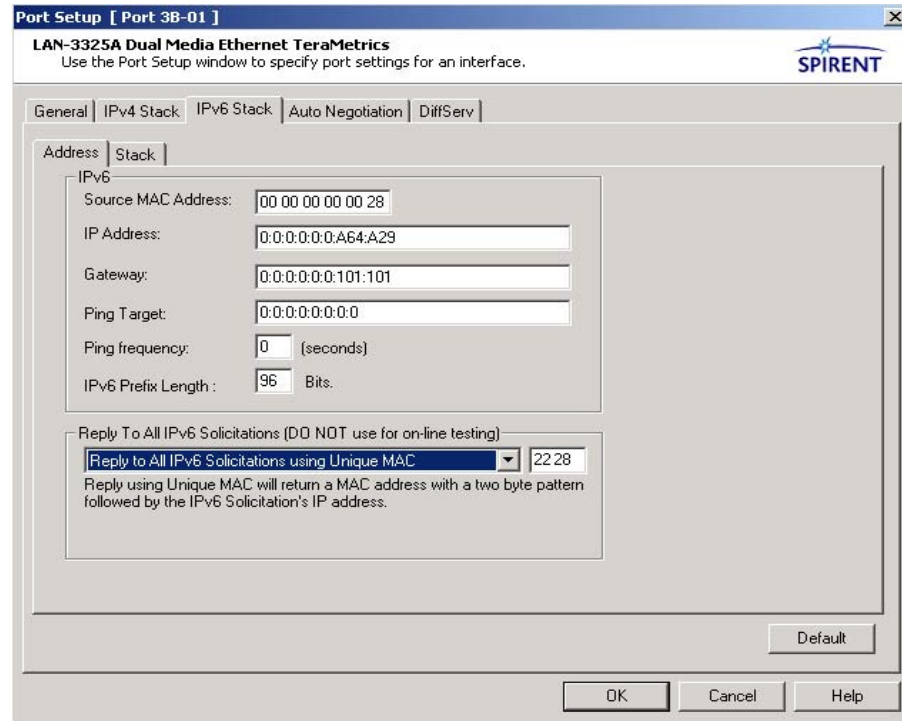

Figure 5-26. IPv6 tab of Port Setup window
- 1 Access the **Port Setup** window and select the **IPv6 Stack/Address** tabs. Locate the bottom window pane and select (using pull-down arrow) the **Reply to All IPv6 Solicitations using Unique MAC** message. (See Figure 5-26 on page 181.)
The right-most segment of the *IPv4 Stack* tab contains two window panes. The top window pane defines the receive properties of ARP requests. The bottom window pane defines the transmit ARP properties. (See *Figure 5-26 on page 181* for an illustration of the *Port Setup* window with the *IPv4 Stack* tab displayed.)